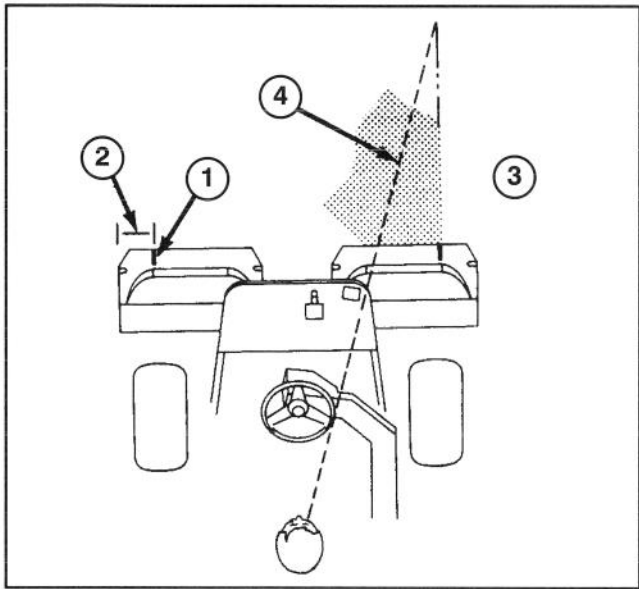

Figure 20
2. Either place a strip of white tape or paint a line onto each basket paralleling the outer edge of each basket (Fig. 20)